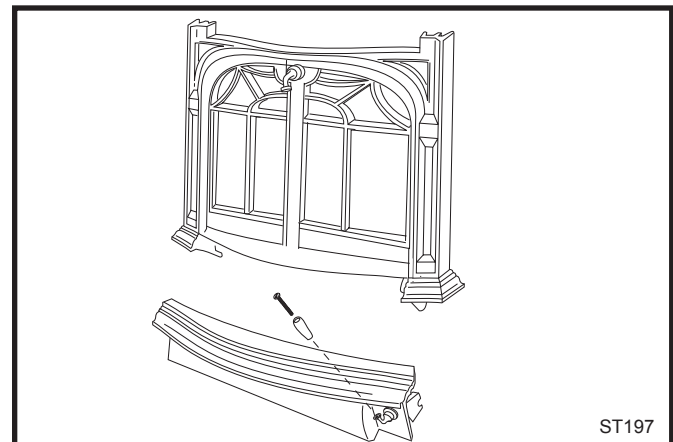

Fig. 26 Attach the handle to the control door.
- Attach the wooden handle to the control door using the #8-32 x 2" screw from the parts bag. (Fig. 26)